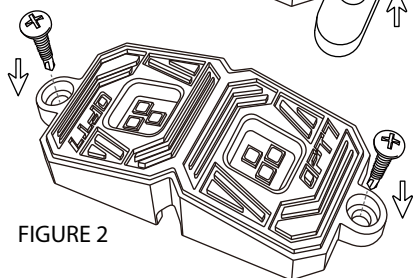

FIGURE 2
- OPTION 2 Use "Self-Drilling Screws" for mounting as shown in Fig. 2